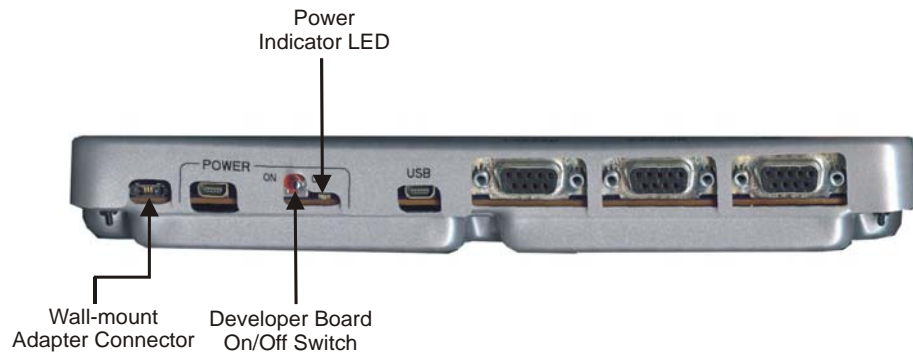

Figure 2-4: Developer Board Power Switch and Adapter Connector (Rear)
Caution: Before connecting the power supply, make sure that the Developer Board On/Off switch (located in the rear of the board, as shown in Figure 2-4, on page 10) is in the **OFF** position.
1. Connect the supplied Wall adapter to the Wall Adapter Connector (J230) (Figure 2-4).
- Connect (Figure 2-4) either the supplied RS232 cable with a male D-type connector to RS232-1 connector (J300), or the supplied Mini-AB USB cable to the USB connector (J380).
1. Turn on the Developer Board power by switching the power On/Off switch (S200) to **ON** (Figure 2-4, on page 10).